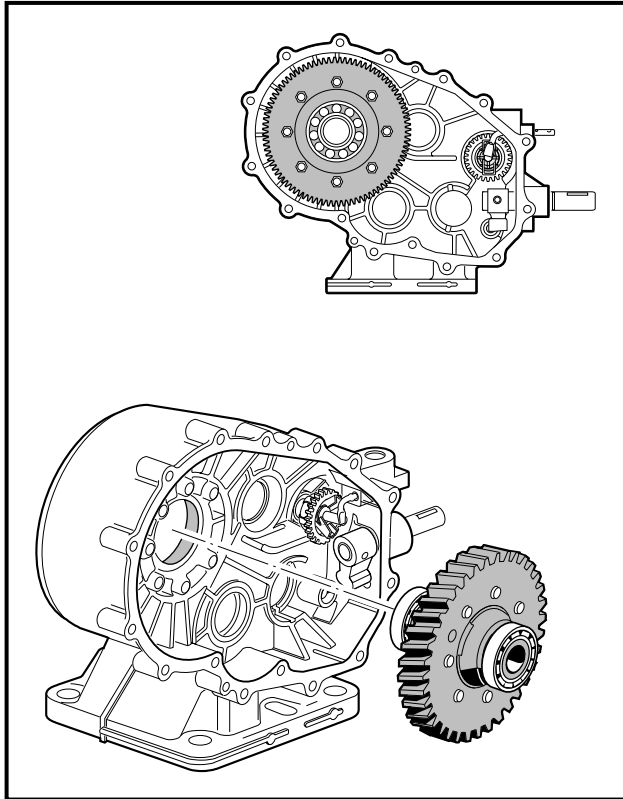

Figure 16-81 Differential Gear Assembly
- 7.1. Stand the left side case on the mounting plate, then install the differential gear case assembly as shown (**Figure 16-81, Page 16-34**). Do not seat the assembly in the bore, but insert it just far enough that it will not fall out.